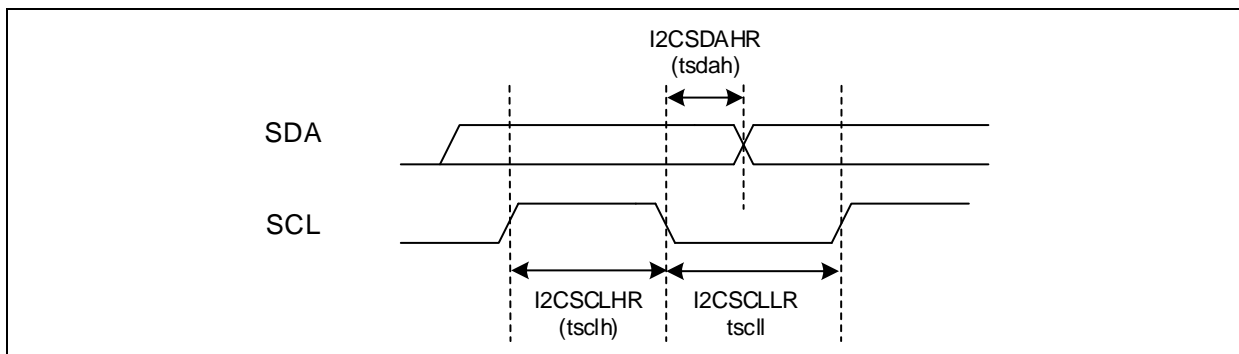

Figure 70. I2C SCL Max Clock, SCL, SDA Settings
3. Depending on I2C devices, I2C SCL max clock will be defined and the value of SCL low /high time and SDA hold time will be written on the I2CSCLLR, the I2CSCLHR, and the I2CSDAHR as shown in Figure 70.